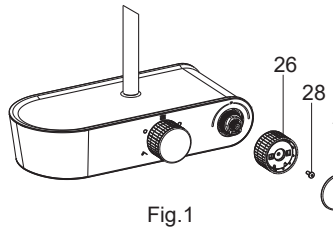

Fig.1
不要转动温控阀轴，安装温控把手(26)使温控把手上的凸起朝向正上方且与本体上的数字37对齐。用螺丝刀锁紧螺钉(28)，安装把手上盖(27)(Fig.1)。
Do not turn the cartridge spindle. Install the temperature handle(26). Ensure the bulge on the temperature handle is facing upwards and aligned with the number 37 on the faucet body. Tighten the screw(28) with a screwdriver. Install the plug(27) (Fig.1).
拆卸前确保温控把手(26)上的凸起朝向正上方且与本体上的数字37对齐。取下把手上盖(27)，用螺丝刀取出螺钉(28)，卸下温控把手(Fig.1)。
Before your action, ensure the bulge on the temperature handle(26) is facing upwards and aligned with the number 37 on the faucet body. Remove the plug(27). Remove the screw(28) with a screwdriver. Take out the temperature handle(Fig.1).